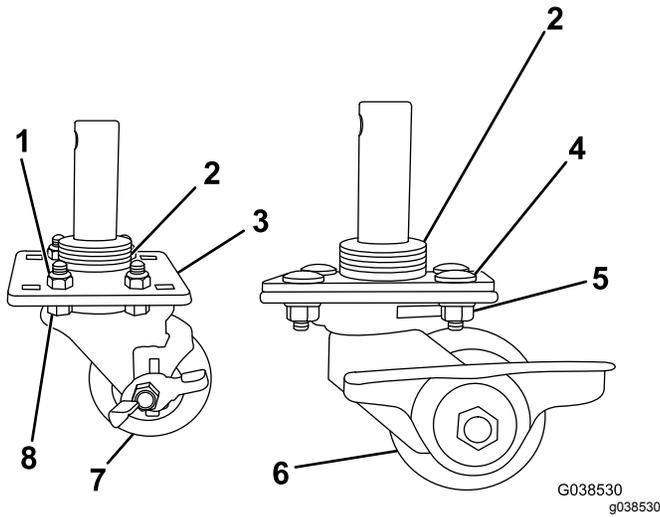

Figure 4
1. Assemble the casters as shown in Figure 4.